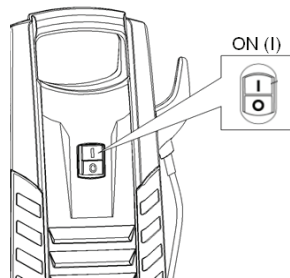

Figure 11
4. Press the ON/OFF switch to the ON position (marked I). See figure 11.
2. Press the ON/OFF switch to ON position marked as I. (Figure 11 above)